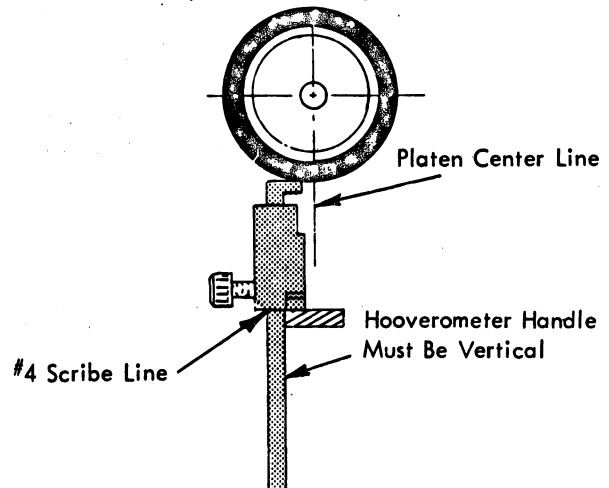

FIGURE 134. Platen Height Adjustment
- a. **Platen Height** - With the head of the Hoovermeter set at the #4 scribe line, the platen should just touch the base of the handle when the head is resting on the escapement rack (Fig. 134).